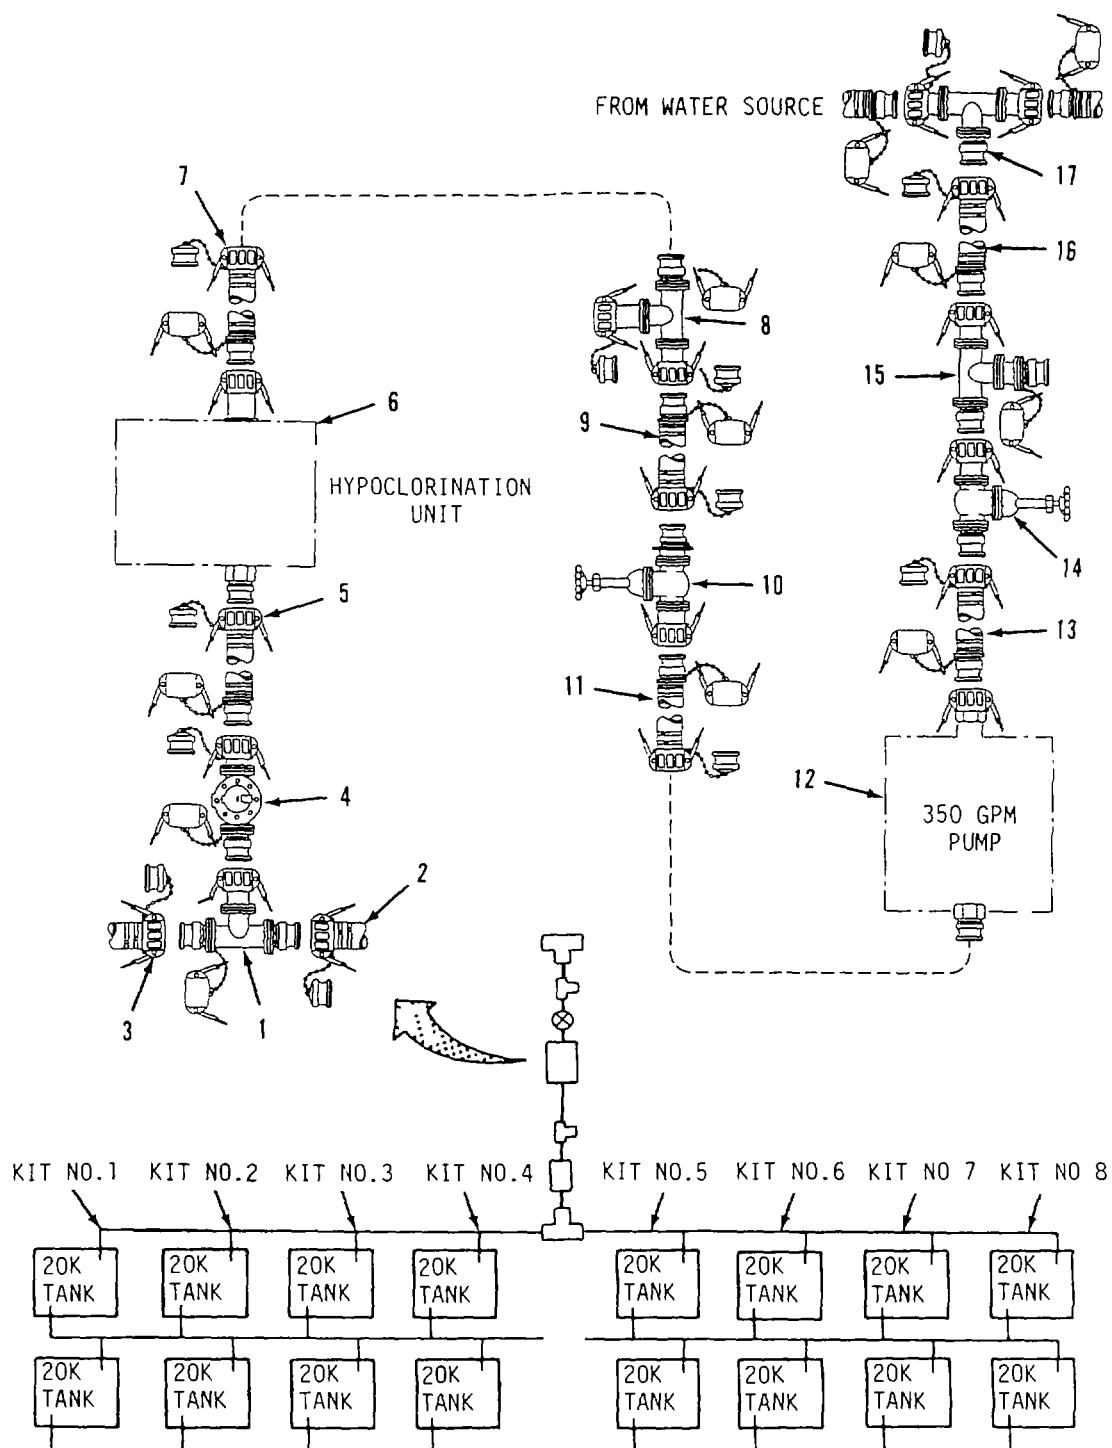

Figure 2-15. 350 Gpm Pump Connection Kit Assembly (Water Source).
- h. Assemble 350 Gpm Pump Connection Kit (Water Source). Refer to Figure 2-15